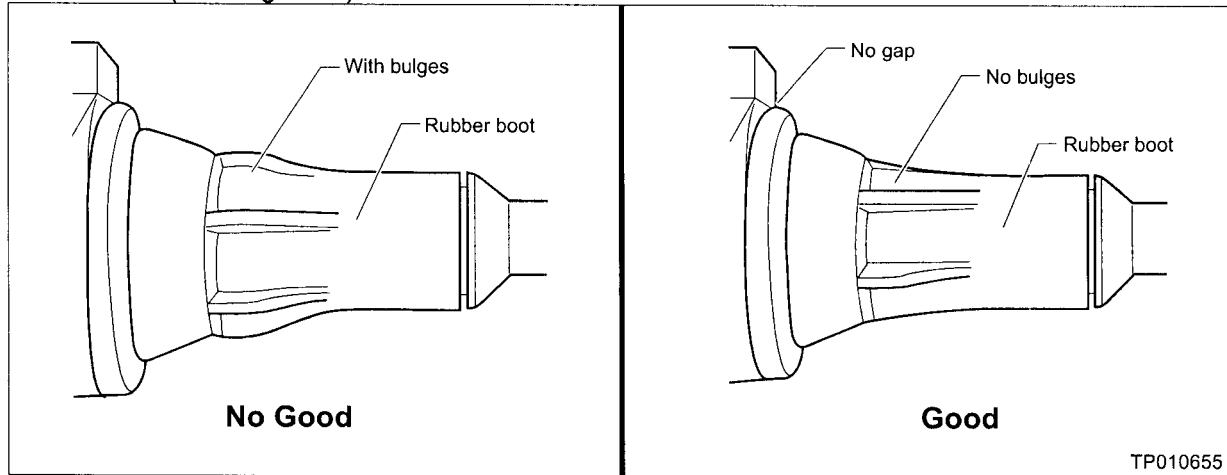

Figure 3
- Ensure there are no gaps and bulges between the coil body and the rubber boot (see Figure 3).